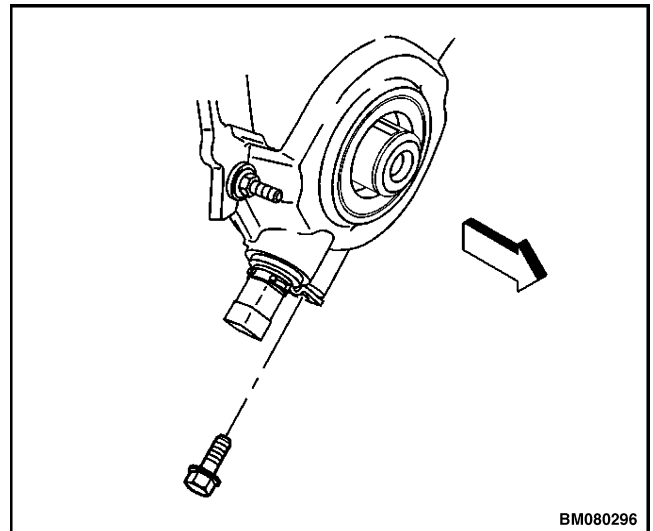

Figure 35. Crankshaft Position (CKP) Sensor Mounting Bolt
2. Remove the CKP sensor mounting bolt. See Figure 35.
4. Install the CKP sensor mounting bolt and tighten the CKP sensor mounting bolt to 9 N•m (80 lbf in). See Figure 35.